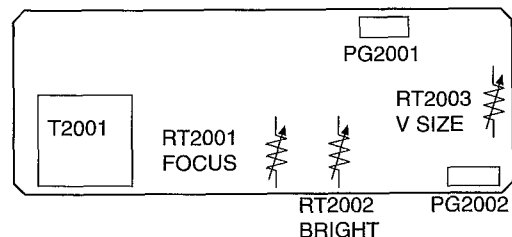

Fig. 2-51 EMQ Circuit Board (Side-B)
(2) EVF Vertical Size Adjustment (Fig. 2-51)
(3) EVF Brightness Adjustment (Fig. 2-51)
(4) EVF Focus Adjustment (Fig. 2-51)